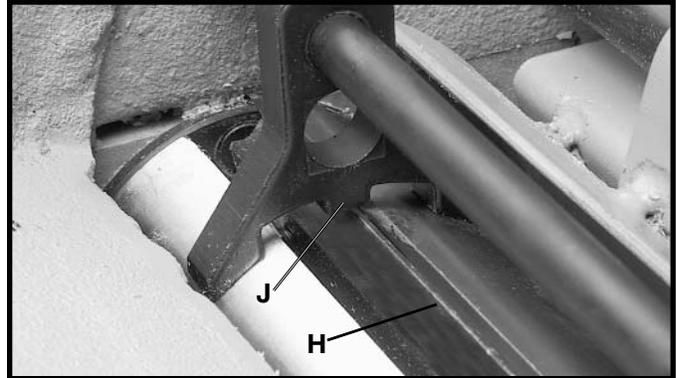
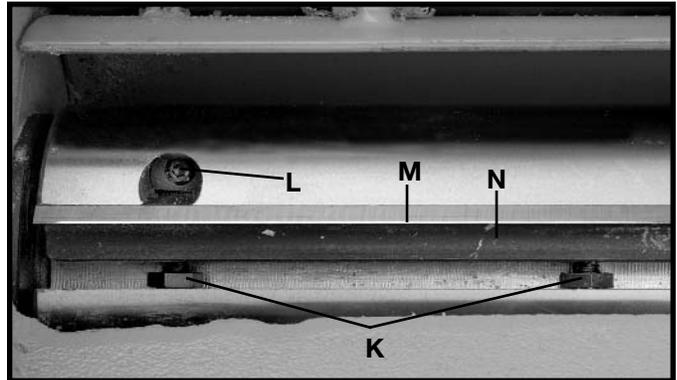

Fig. 36
Fig. 37
- B. When the knives are adjusted correctly, the knife (H) Fig. 36, should just contact the bottom of the gage (J), at each end of the gage. Check the remaining two knives in the same manner.
- C. To adjust the knife that must be reset, loosen all five locking screws, two of which are shown at (K) Fig. 37, by turning them clockwise into the lock bar. Then using the wrench supplied, turn allen screw (L) Fig. 37, counterclockwise to lower or clockwise to raise the knife on each end of the cutterhead until the cutting edge of knife (H) Fig. 36, just touches the bottom of the gage (J). Then snug up the knife locking bar by lightly backing out the five locking screws, two of which are shown at (K) Fig. 37, against the knife slot. **IMPORTANT: AT THIS TIME, ONLY TIGHTEN THE KNIFE INTO THE SLOT ENOUGH TO HOLD IT IN POSITION.**
- E. After all three knives are set, back out and tighten the five locking screws, two of which are shown at (K) Fig. 37, against the slot, starting with the end screws first, then the center screws until the knife is securely held in the cutterhead. Tighten the remaining two knives in the same manner.
- A. Remove the knife (M) Fig. 37, locking bar (N), and locking screws (K) from the cutterhead. Repeat this process for the two remaining knives, locking bars, and locking screws.
- C. Insert locking bars, knives and screws into all three slots in the cutterhead. Back out the locking screws, two of which are shown at (K) Fig. 37, just enough to hold all three knives in the cutterhead.